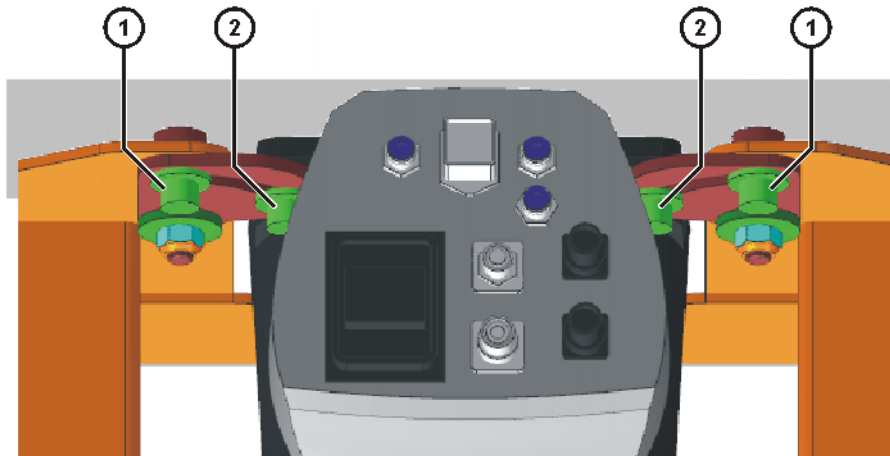

Fig. 8-13: Removing screws from the rear
13. Unscrew 2 M12x30 Allen screws (rear Allen screws) and washers from the rear of the base frame (>>> Fig. 8-13).